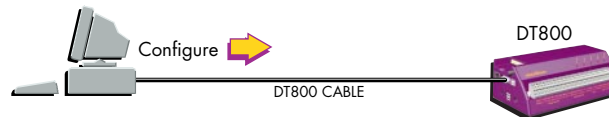

FIGURE 80 Use a direct connection to configure the DT800 for a remote connection
- Configure the following DT800 **PROFILE...** parameters using a direct connection between a local computer (running DeTransfer, DeLogger or HyperTerminal) and the DT800 (Figure 80):